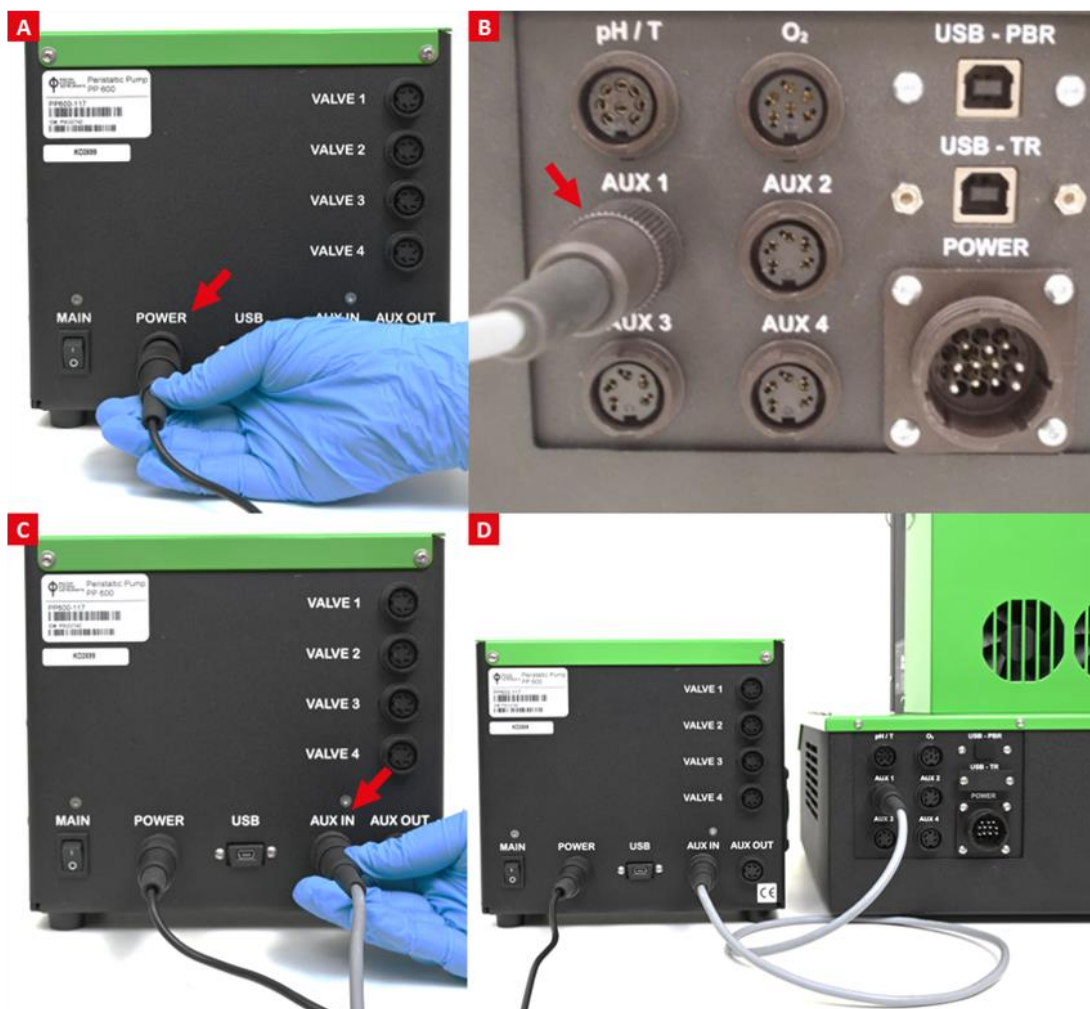

Fig. 38 Connection of peristaltic pump with PBR FMT 150.
- Install the wiring connections for the peristaltic pump as shown in Fig. 38.